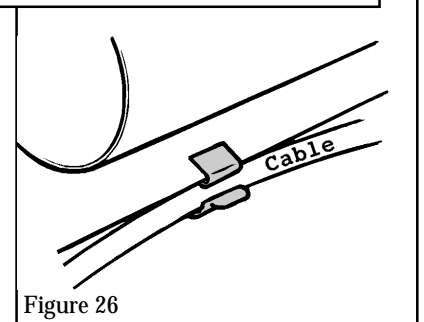

Figure 26
8.11 Further support for the fan cable (especially at corners) can be provided using the spring cable clips supplied in the pack. Fit the clips to the bottom edge of the backing plates and attach the cable (see figure 26).